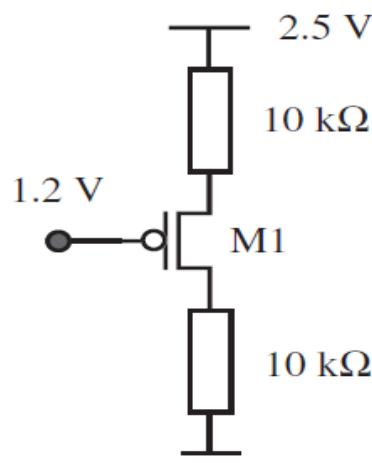

Figure 5C
- 5C. Calculate I_D and V_{SD} , and indicate region of operation of transistor M1 for the circuit in **Figure 5C**. $V_{tp} = -0.4\text{ V}$, $K_p = 120\mu\text{A}/\text{V}^2$, and $W/L = 2$. (5+5+10)